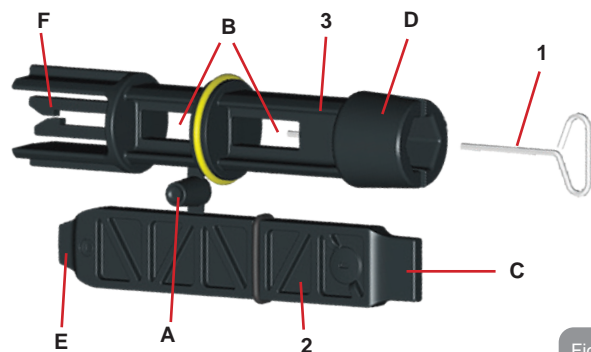

Figure 22
- 1 - metal key with a hexagonal section (Fig.22 – 1);
- 2 - flat plastic key (Fig.22 – 2);
- 3 - cylindrical plastic key (Fig.22 – 3).
Key “1” is in turn inserted in the end “D” of key “3”. At the first use you must separate the 2 plastic keys “2” and “3”, which are supplied joined by a bridge (Fig.22 – A):